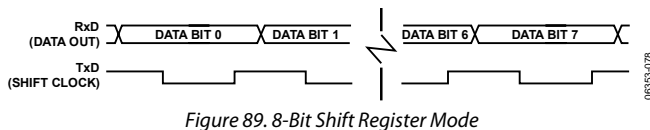

Figure 89. 8-Bit Shift Register Mode
Reception is initiated when the receive enable bit (REN) is 1 and the receive interrupt bit (RI) is 0. When RI is cleared, the data is clocked into the RxD line, and the clock pulses are output from the TxD line as shown in Figure 89.